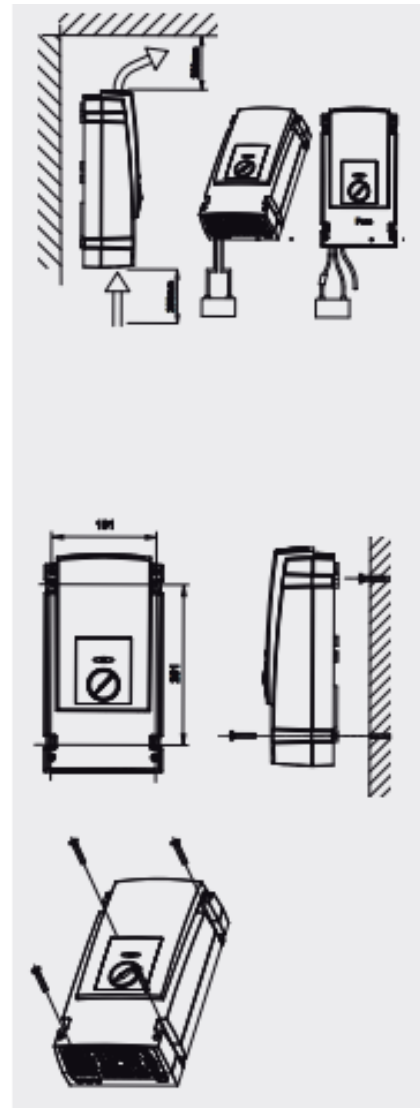

Figure 20: Mounting instructions for Steca Solaris
- Installation and mounting (e.g. see Figure 20: Mounting instructions for Steca Solaris);